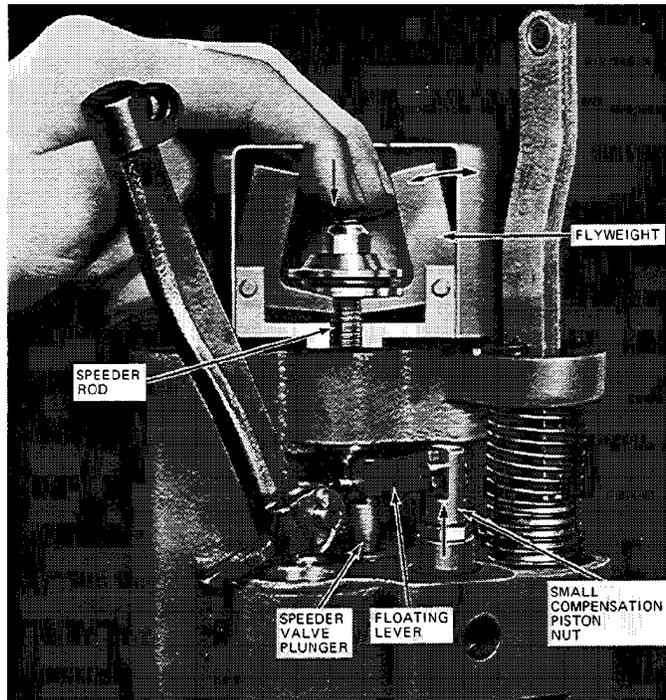

Figure 5-9. Third Check for Binding of Floating Lever
- c. Lift the small compensation piston nut approximately $1/4$ " (6 mm) and repeat step a (see Figure 5-9).